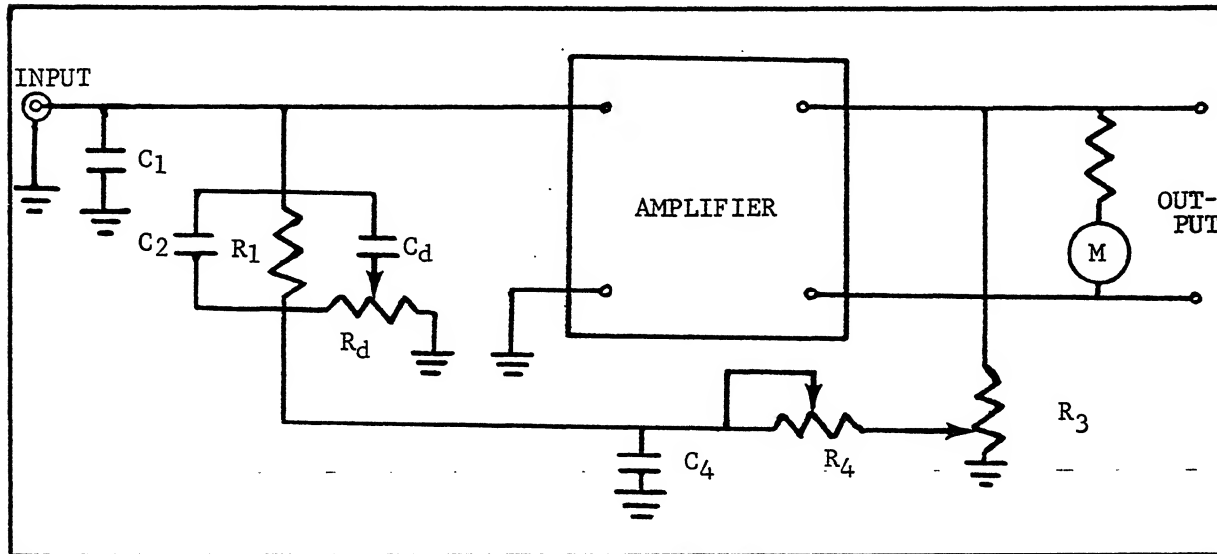

FIGURE 14. Critically Damped Feedback Network. R_4 and C_4 are added to the circuit of Figure 12 so that $R_4C_4 = R_1C_2$.
2. To decrease the effect of R_1C_2 , resistor R_4 and capacitor C_4 are added to the circuit. (See Figure 14.) If $R_4C_4 = R_1C_2$, a lead network cancels a lag network and equation 4 becomes